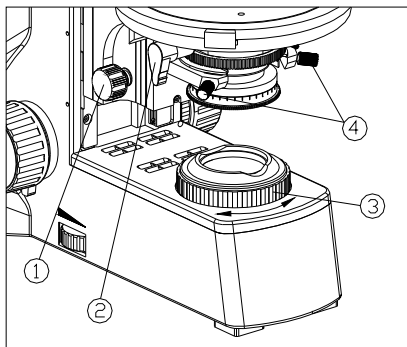

Fig.23
(1) Rotate the condenser up-down knob① to raise the condenser to the highest position.
(2) Rotate the spanner② to move the front lens into the light path (See Fig. 23).
Rotate the field diaphragm adjustment ring ③ in clockwise, to enlarge the field diaphragm; otherwise, to decrease it in counterclockwise. (See Fig. 23)